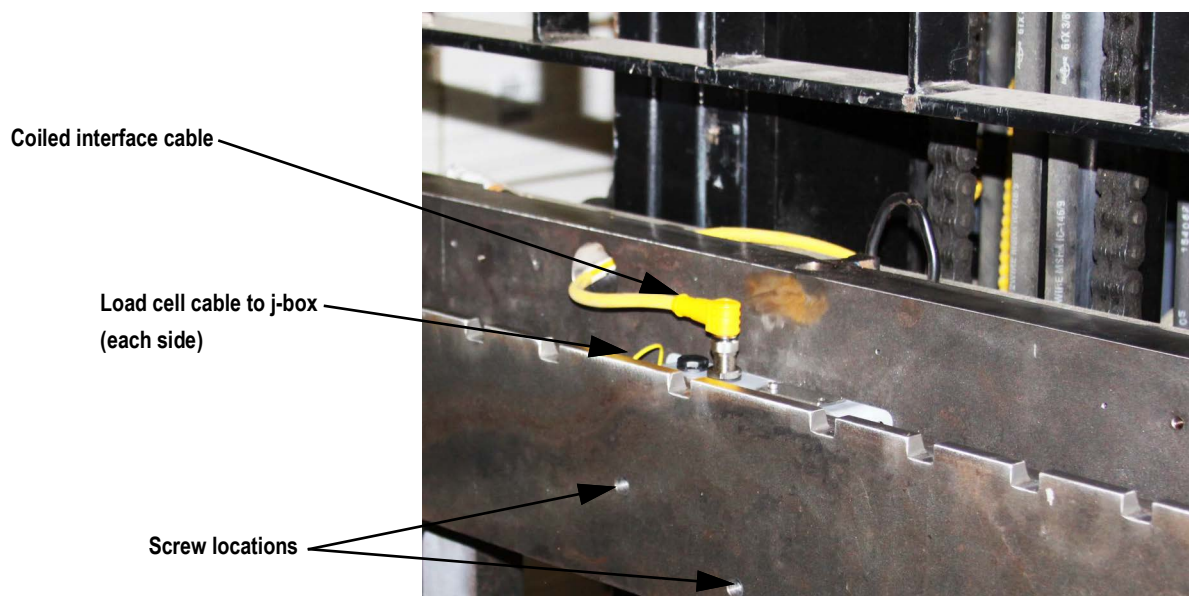

Figure 7-85. Junction Box Location Inside the Scale
6. Remove the two screws securing the junction box to the scale, using a #4 metric Allen wrench. See Figure 7-85 for screw location.